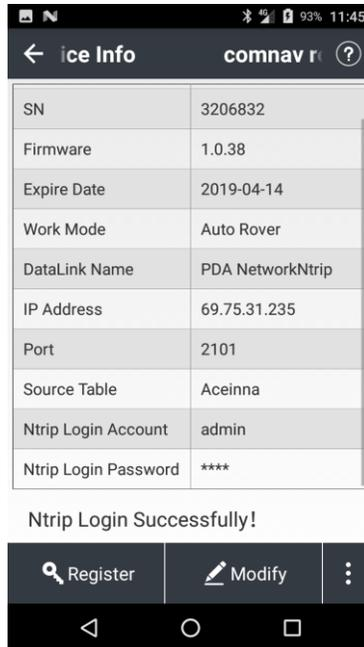

Figure 109 - Ntrip Login Successful message.
17. If the configuration is correct you should see "Ntrip login successfully" (See Figure 109).